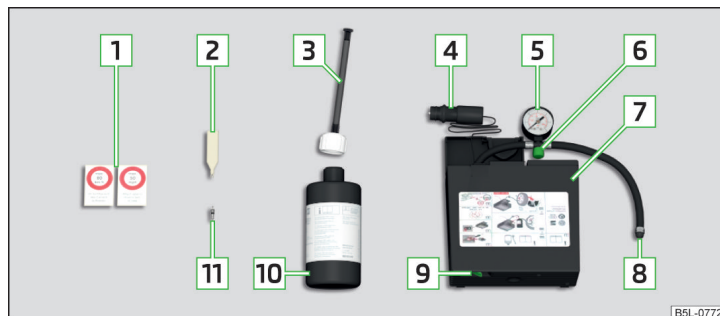

Fig. 124 Principle sketch: Components of the breakdown kit
Kit components » Fig. 124
- Stick the sticker  » Fig. 124 on page 127 on the dash panel in the driver's field of view.
- Forcefully shake the tyre inflator bottle  » Fig. 124 on page 127 several times.
- Screw the air compressor tyre inflation hose  » Fig. 124 on page 127 firmly onto the tyre valve.